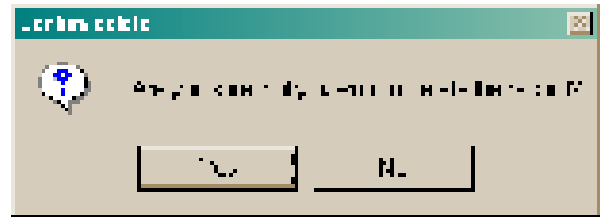

Figure 5.30 Delete confirmation message.
4. If no product-tracking records are associated with the selected purpose of use, a confirmation message (Figure 5.30) is displayed, asking you to confirm the deletion. Click Yes to delete the selected purpose of use.